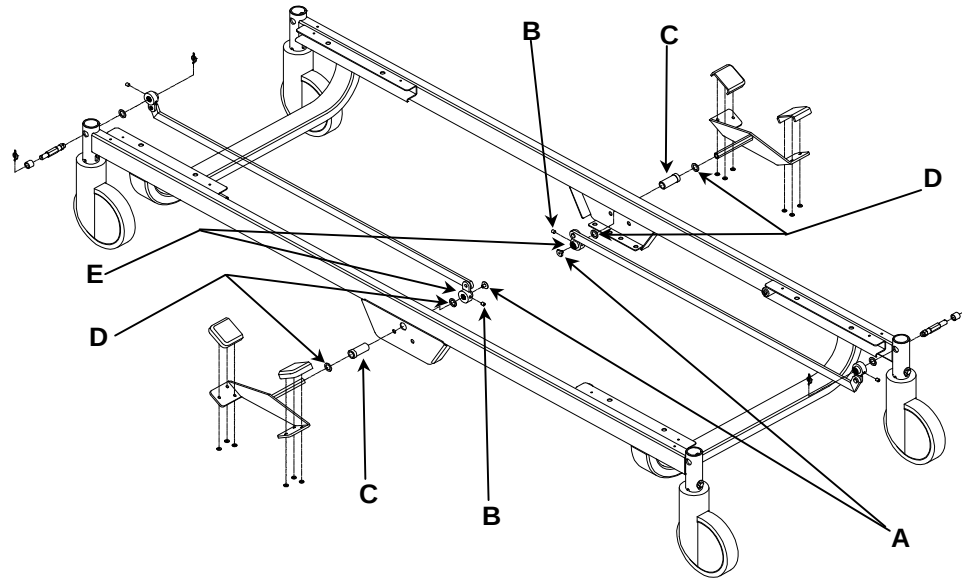

Figure 4.19
4. Remove the machine screw (**A**, fig. 4.19, page 54) located at the end of the right and left pedal shafts. Note that in prior versions (beds with serial number $\leq$ C01340), the GO BED is equipped with protective caps instead of machine screws. If it's the case with your bed, disregard the following note and proceed with step 5.
6. Remove the pressure screws (**B**, fig. 4.19, page 54) located on the head and foot locking levers (**E**, fig. 4.19, page 54).
4. Remove the machine screws (**A**, fig. 4.19, page 54) located at the end of the right and left pedal shafts. Note that in prior versions, the GO BED is equipped with protective caps instead of machine screws. If it's the case with your bed, disregard the following note and proceed with step 5.
7. Remove both pedals completely. Remove the two pedal sleeves (**C**, fig. 4.19, page 54). Keep the four nylon washers (**D**, fig. 4.19, page 54).